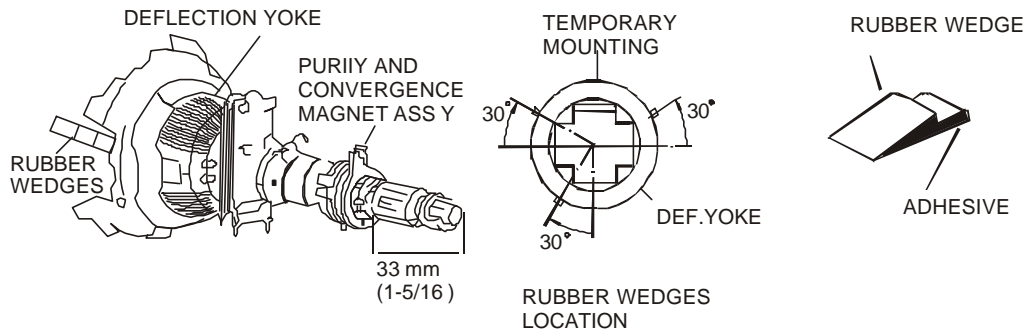

Figure 8
**Note:** Before attempting any color purity adjustments, the receiver should be turned on for at least 30 minutes. (see Figure 8). A few rubber wedges should be available for use whenever necessary during the process of color purity adjustment.
- b. Put a wedge as shown in Fig.8 temporarily. (Do not remove the cover paper on the adhesive part of the wedge).
- h. Tighten the screw firmly to hold the yoke tightly in place. Stick 3 adhesive tapes on wedges as shown in Fig. 8.